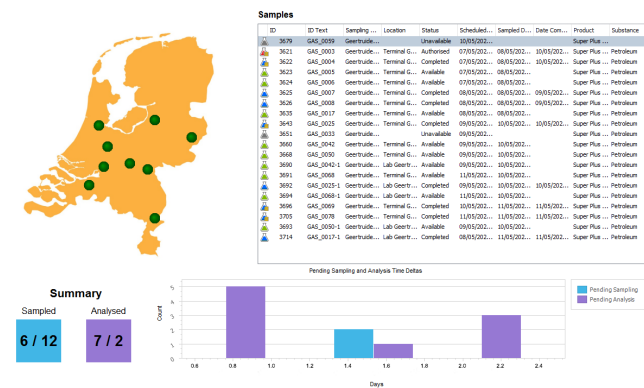

Figure 8. LIMS visualization tools for hazard analysis, this figure shows air contamination results by sample point in SampleManager LIMS software.
In oil and gas industry testing, there are two distinct sample lifecycles: environmental monitoring and quality control (QC) samples. To manage environmental monitoring, SampleManager LIMS software is used to set up sampling points around a plant or any other area where testing is required (Figure 8). These sample points are set up in SampleManager LIMS software's automated Sample Point Scheduler. When samples are logged into the LIMS, each sample is associated with the test limits for each analysis as defined in the specification. These limits can be set according to local or national requirements, results are checked against these limits on entry and immediately flagged if they are out of specification. Incidents can automatically alert stakeholders or request retesting.